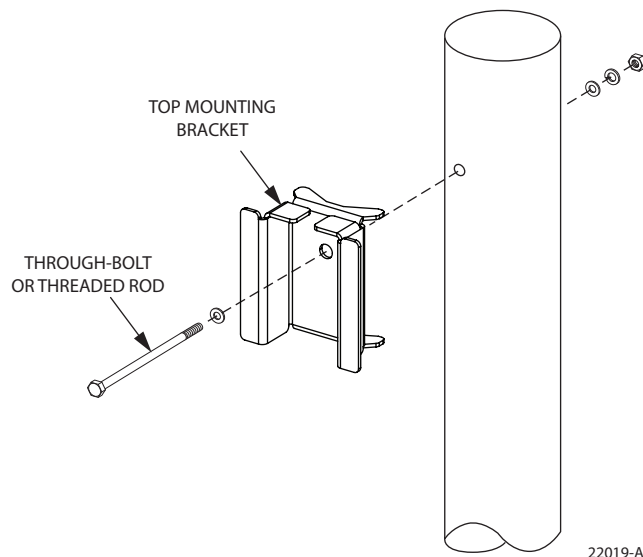

Figure 6. Installing Mounting Bracket on a Utility Pole
- 1/2-inch through-bolt (1), 1/2-inch nut (1), 1/2-inch flat washer (2)
- 1/2-inch threaded rod (1), 1/2-inch nut (1), 1/2-inch flat washer (2), 1/2-inch lock washer (2)
10.1.1 Using the top mounting bracket as a guide, mark the location of the bracket mounting holes on the pole as shown in Figure 6 and mount the top bracket to the pole using a through-bolt or threaded rod.